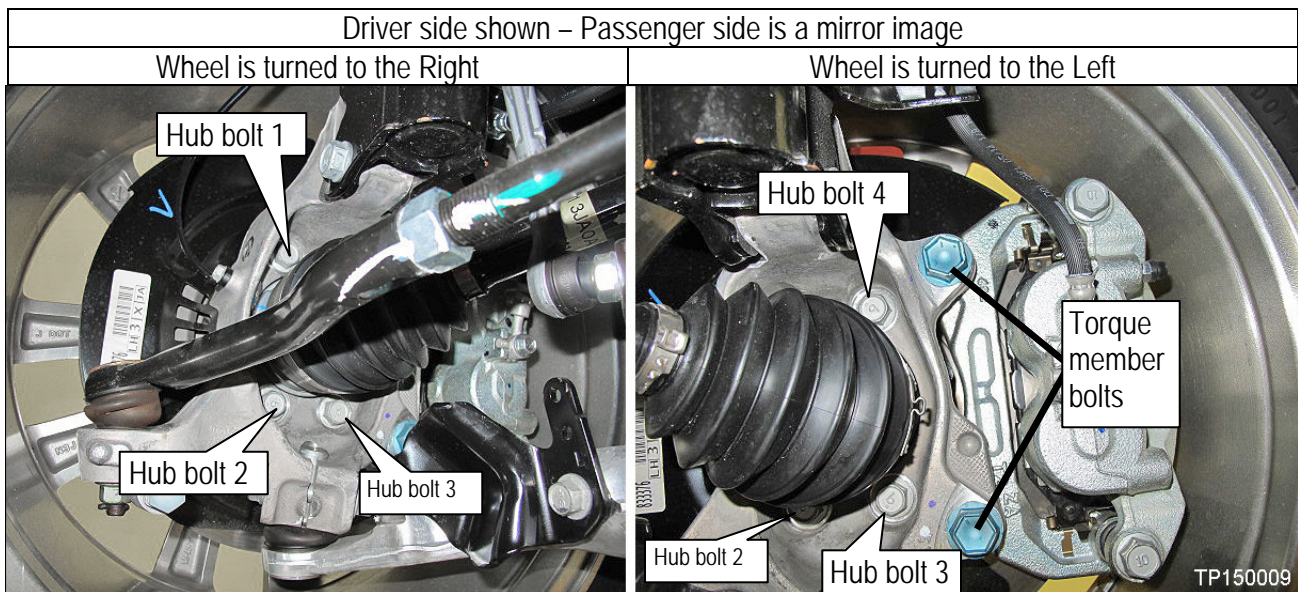

Figure 1
2. Locate and torque the 4 hub bolts and 2 torque member bolts on each front wheel hub assembly (see Figure 1).